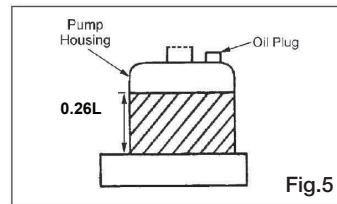
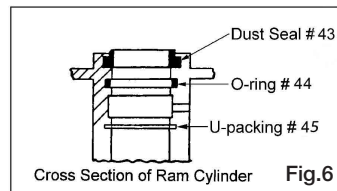

Fig.5
Fig.6
Check the oil level annually by removing the oil plug (46) on top of the pump housing. When changing or adding oil, fill the tank through the oil plug hole with 8.8ounces (0.26L) of new hydraulic jack oil. See Figure 5. Do not use any other type of oil. When finished, replace oil plug (46).
- ①. Raise the pallet truck by pumping handle.
- ②. Remove shaft (18). This will free the pump and handle assembly from the pallet truck.
- ③. Remove the oil plug (46), turn pump over and empty the oil into a suitable container. Pump handle until all oil has drained. Dispose of used hydraulic oil according to local disposal regulations.
- ④. Pull out plunger piston (40) and/or ram piston (42).
- ⑤. Remove all O-rings and seals. See Fig. 6.
- ⑥. Insert new O-ring or seal one at a time making sure to replace with the same size that was removed.
- ⑦. Reassemble and fill the oil tank through the oil plug hole with 0.26L (8.8 oz.) of new hydraulic jack oil. See Fig. 5.